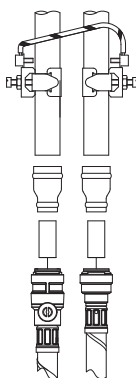

Fig. 12
- 4.15 **Adjacent pipes:** Adjacent suction and delivery pipes should be fitted with earthing clamps to BS 951 and connected with earthing wire size 4 mm² (Fig. 12).